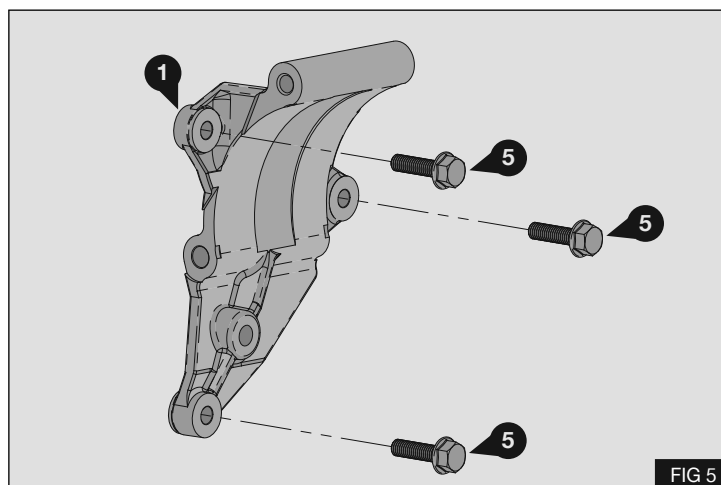

FIG 5
1. Install the supplied mount bracket ① at the position where the foolish pulley was removed. Secure using 3x M8 bolts ⑤ - Fig 5